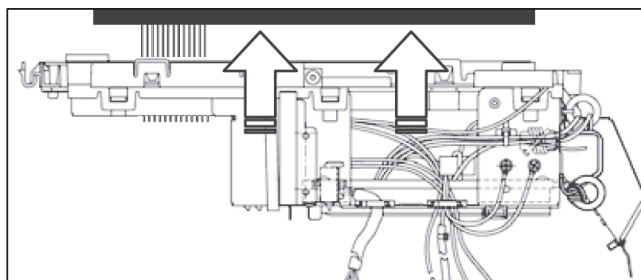

Fig.7 How to remove control PCB
- 14) Take a control PCB out. (Fig.7)